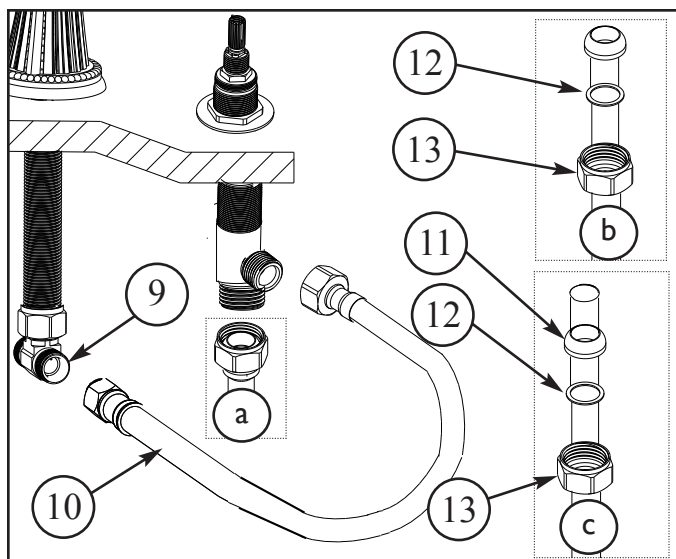
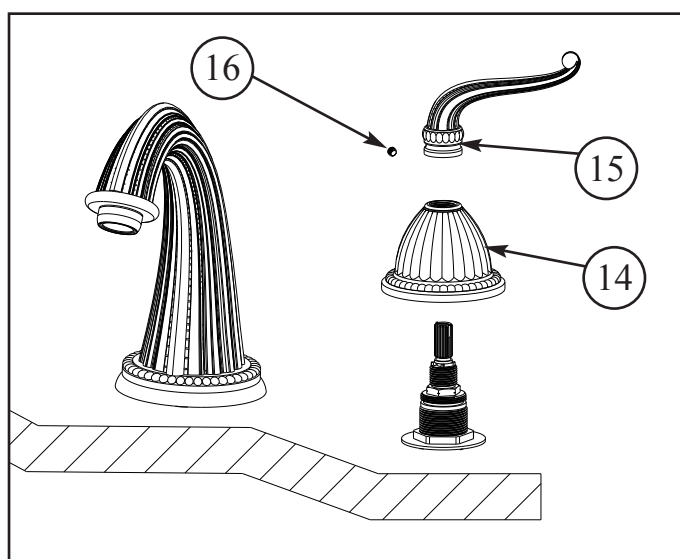

Figure 3
Figure 4
4. Connect large end of flexible HOSE (10) to side outlet of each valve BODY (7). Attach other end of HOSE (10) to either side of the TEE (9). (Hand-tighten and secure each connection with a wrench ¼ turn.) See Figure 3.
5. Connect hot/cold water supply to appropriate 1/2" NPSM valve BODY (7), utilizing one of the three following types of risers. Supply risers not included. See Figure 3.
- a. 1/2" IPS flexible riser: discard rubber nosecone WASHER (11), friction WASHER (12) and coupling NUT (13).
- b. 3/8" or 1/2" OD bullnose riser: utilize friction WASHER (12) and coupling NUT (13).
- c. 1/2" copper riser: utilize rubber nosecone WASHER (11), friction WASHER (12) and coupling NUT (13).
6. Place ESCUTCHEON (14) and HANDLE (15) to cartridge. Secure HANDLE (15) into place with SETSCREW (16). Any adjustments for rotational alignment must be made to the valve BODY (7) - not to the cartridge. (Note: Allow minimum spacing between HANDLE (15) and ESCUTCHEON (14) to prevent damage to the surface finish.) See Figure 4.